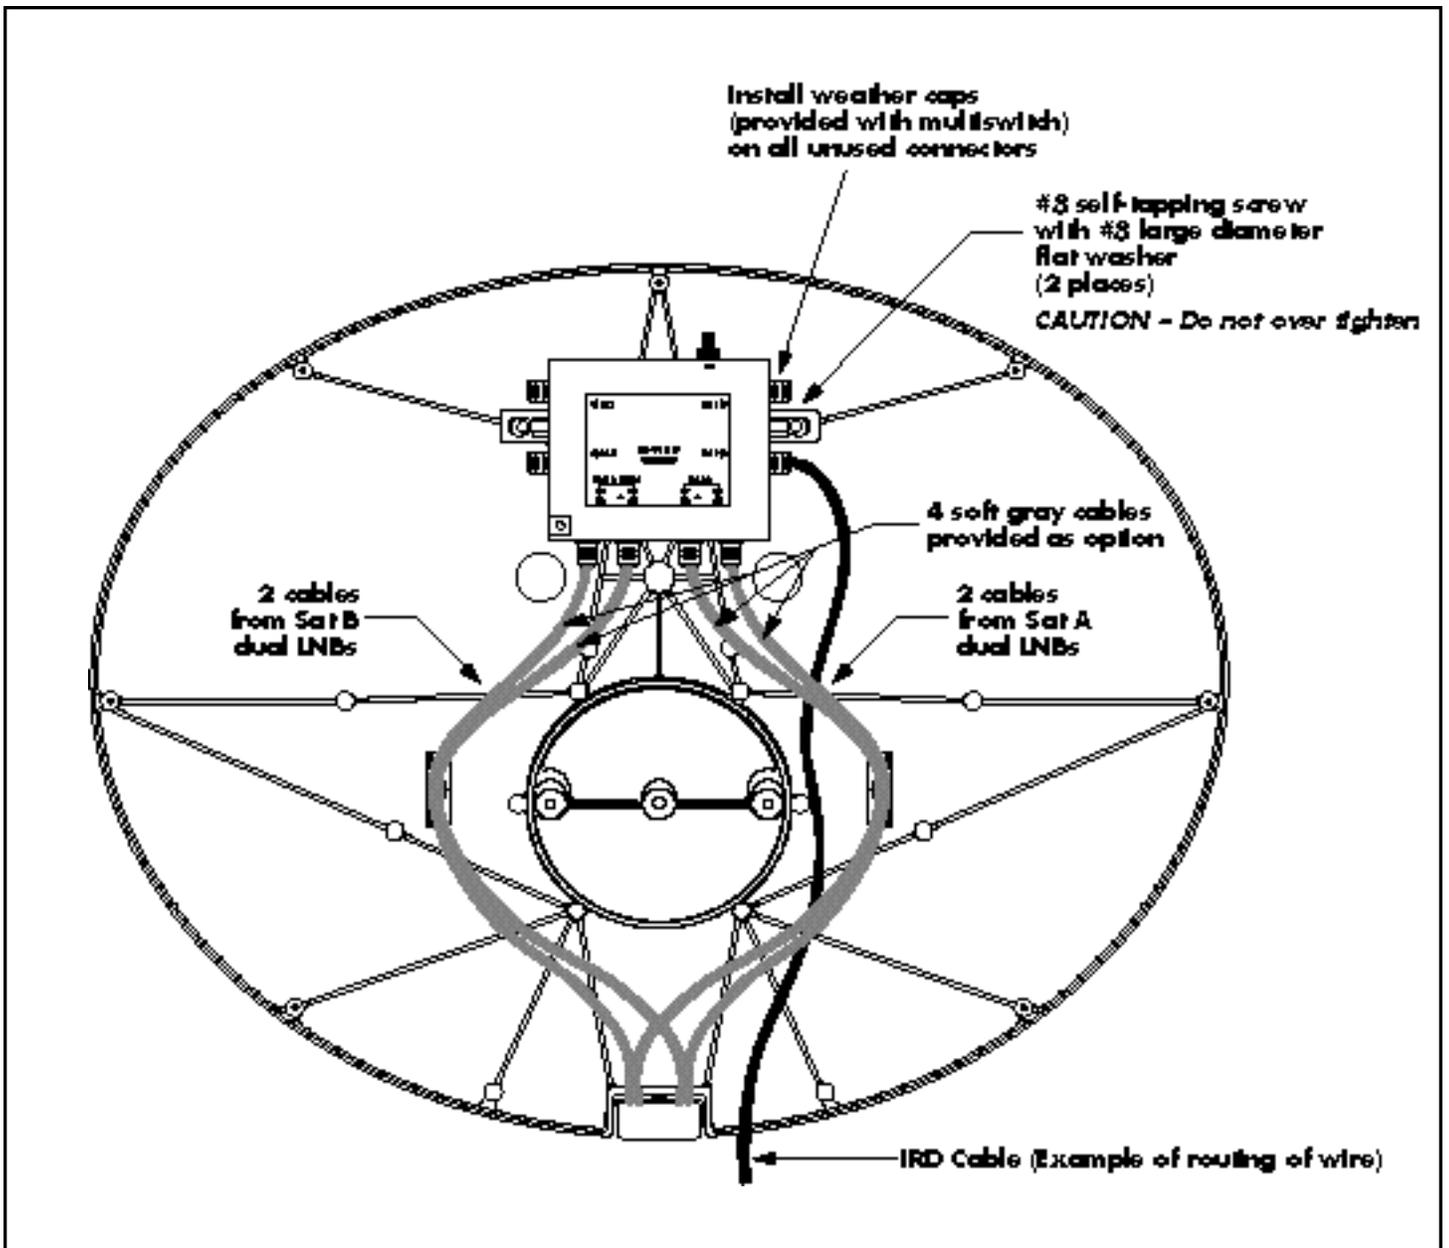
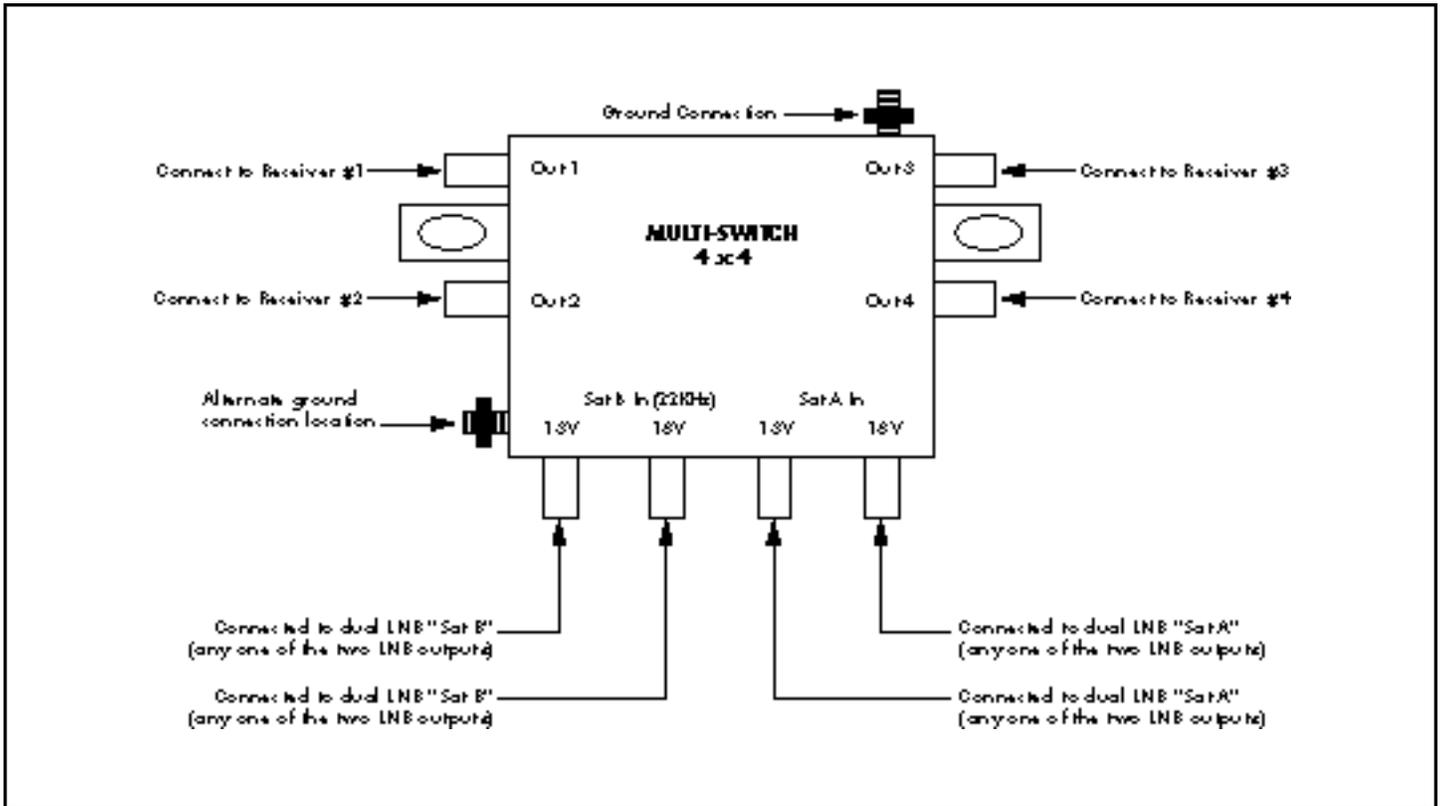

FIGURE 9
FIGURE 10
- Option #1: Mounting a weatherproof multiswitch to the back of the antenna as shown in Figure 9. This location is simplest for installations that use one receiver since only one cable enters the building. If this option is selected, connect the LNBs to the multiswitch per the following instructions while on the ground with coaxial cables. Depending on your model, a 4-cable set may be included for ease of installation.
1. To install the outdoor multiswitch to the back of the antenna, use the #8 self tapping screws and washers provided in the multiswitch carton. **CAUTION:** Use a hand tool to tighten the screws until the face of the screw head is evenly touching the multiswitch mounting lug – then tighten $\frac{1}{4}$ turn more. You will also need 4 cables to make the connections between the multiswitch and the LNBS. A set of gray cables is provided for Option #1, in most antenna models. The cables are routed from the multiswitch through the feed tube to the LNBS as shown in Figure 10. The cables should be dressed as shown using the cable clips provided in the hardware bag. IRD cables should be routed underneath the gray cable set as illustrated in Figure 9 (one IRD cable shown in black). With the exception of the IRD cable, it may be easier to perform much of this installation on the ground.
2. Review Figure 10 for multiswitch wiring.
6. Connect opposite loose end of the cables labeled “**Sat A**” from “**Sat A**” LNB to the multiswitch “**Sat A**” terminals as shown in Figure 10. **It does not matter which “Sat A” labeled cables connect to 13V or 18V multiswitch terminals—they are interchangeable.**
7. Repeat for connecting opposite loose end of the cables labeled “**Sat B**” to the multiswitch “**Sat B**” terminals as shown in Figure 10. **It does not matter which “Sat B” labeled cables connect to 13V or 18V multiswitch terminals. They are interchangeable.**
3. Install quality RG6 cables from the satellite receivers to the multiswitch. You may want to install one receiver first until the satellite signals are acquired and fine tuned. Routing of receiver cables, if the multiswitch is mounted at the back of the dish, is shown in Figure 9.